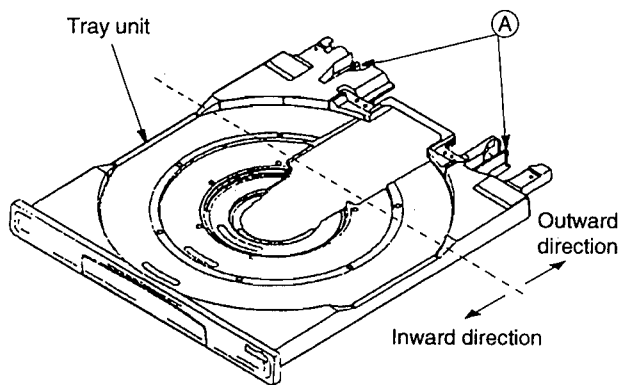
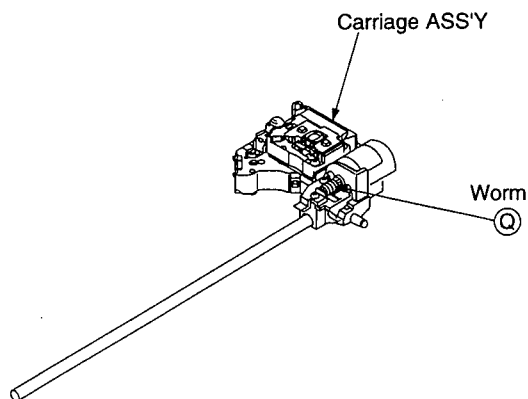

Fig. 1-1 Tray unit
Fig. 1-3 Carriage assembly
2. Pull out the tray unit while pressing the hook (A) (Fig.1-1), located on the rear right and left side of the tray unit, to the each inner side.
2. Make sure that the position of the lens in the carriage assembly is such that the lens stops outside the position indicated by the dotted line in Fig. 1-1.
When the lens stops inside the dotted line, slowly turn the worm (Q) portion of the carriage assembly (Fig. 1-3) to move the lens in the carriage assembly until the lens is outside the position indicated by the dotted line in Fig.1-1. Perform it using the belly of a finger not to damage the worm by the nail.
3. Slowly turn the worm **Q** portion of the carriage assembly (Fig. 1-3) to move the lens in the pickup assembly until the lens is outside the position indicated by the dotted line in Fig. 1-1.